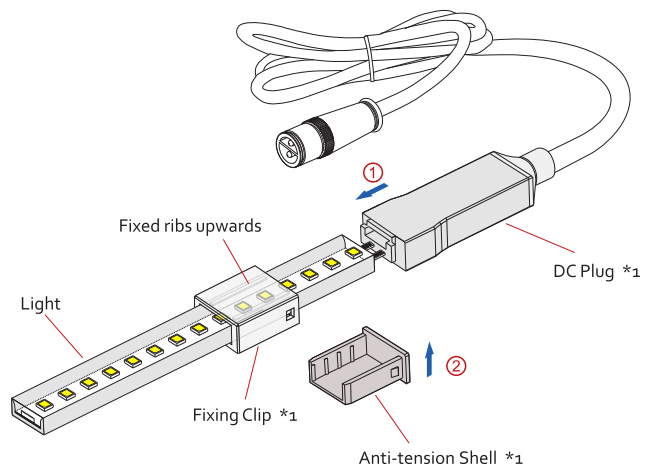

Fig. 4.5
- Fig. 4.5 — Pls doing the assembly according to ① ② ③ ④ steps, and make sure the fixing clip's two fixed ribs are upwards.